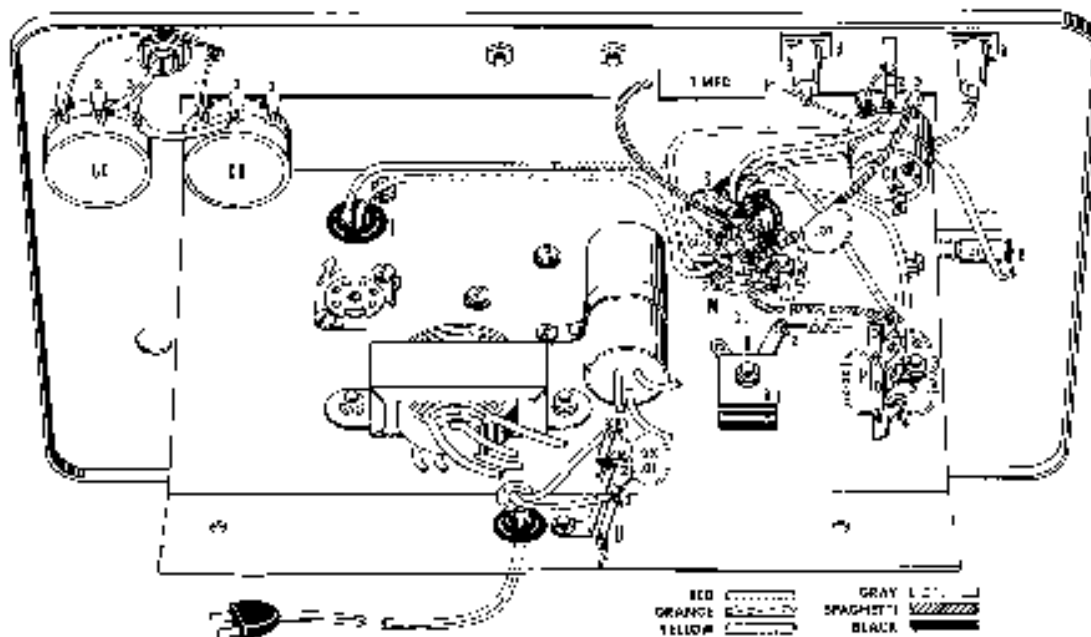
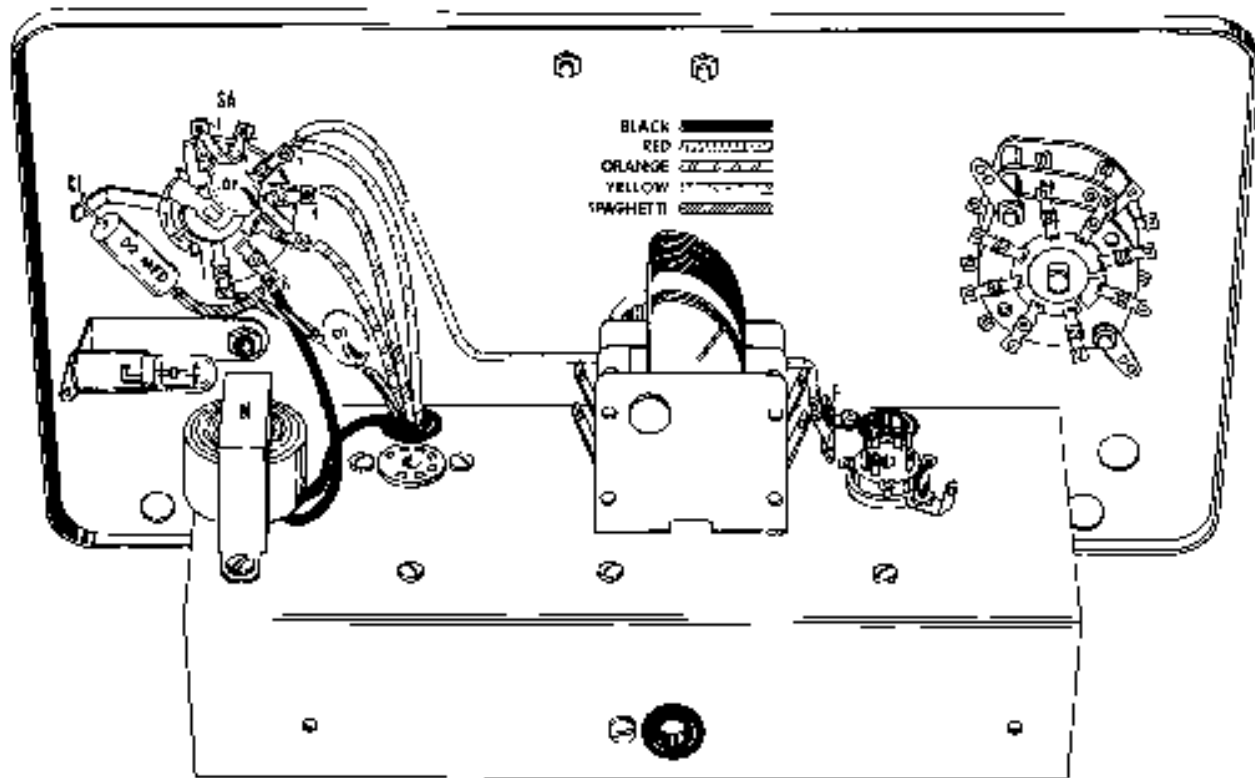

FIGURE 15
FIGURE 16
### REFER TO FIGURE 15
- ( ) 74. Pass one lead of a .01 mfd (10,000 pmf) ceramic disc capacitor (do not cut lead, use spaghetti) through grommet S from the top side of the chassis to M8 (Solder). Leave the other end free. See Figures 15 and 16.
- ( ) 77. Pass the black lead shown in Figure 16 from the Audio Choke N down through grommet S and connect to M1 (Don't Solder). See Figures 15 and 16
### REFER TO FIGURE 16
- ( ) 95. Insert line cord through  $\frac{3}{8}$ " rubber grommet T. Tie a single overhand knot about 3" from the end of the cord for strain relief. See Figure 15